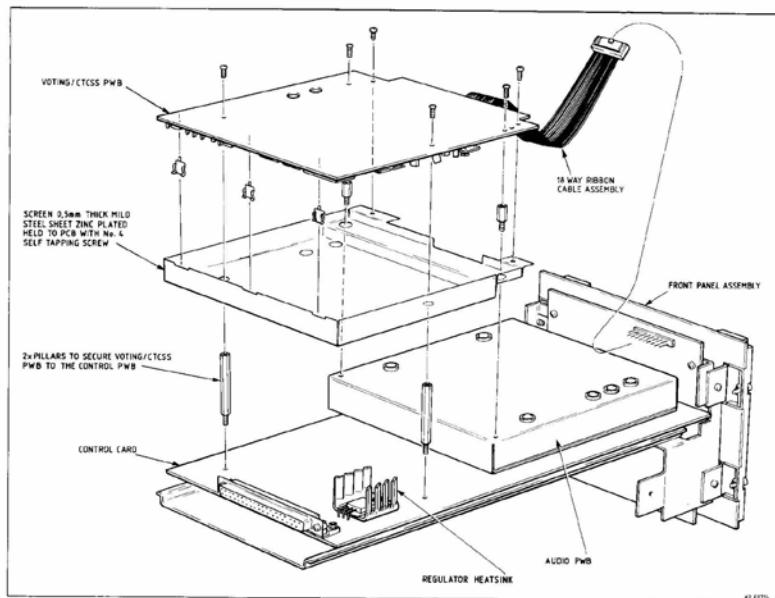

Fig.1 Installation
- (i) Refer to Fig.1 throughout this installation procedure.